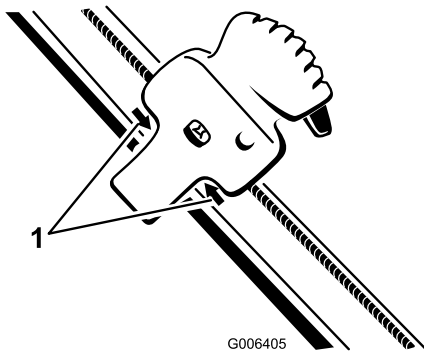

Figure 31
2. Position the Quick Shoot control between the two arrows located on the right hand side of the upper handle (Figure 31).